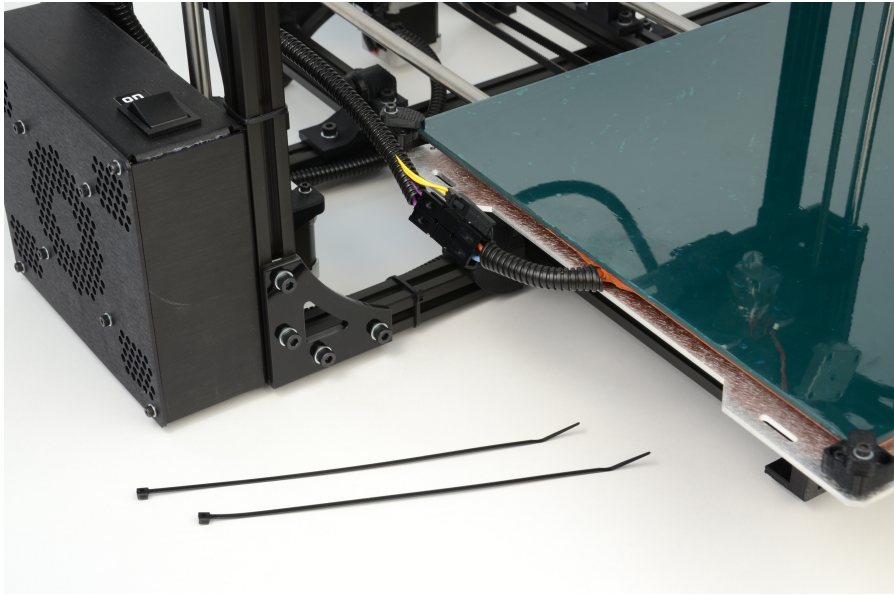
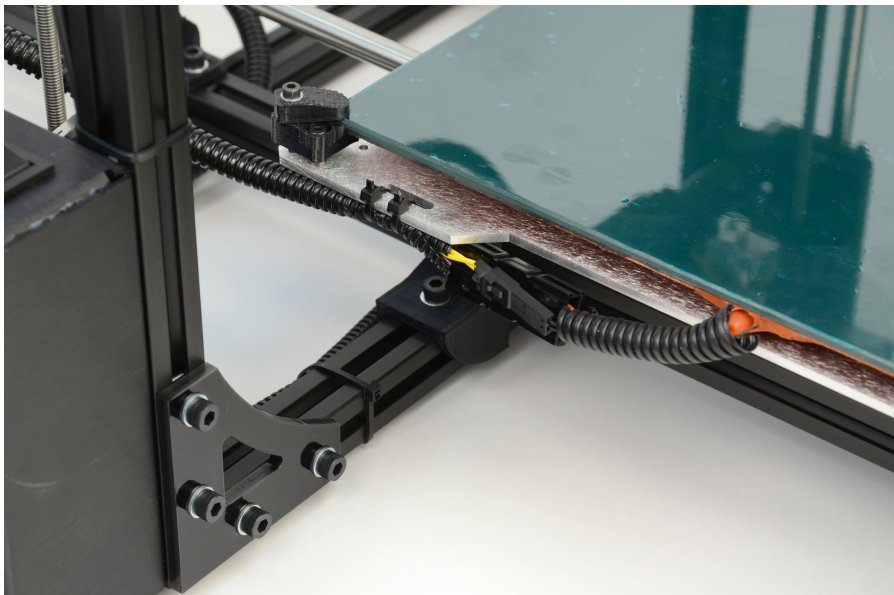

Figure 1.9: Locate the two zip ties found in the bag with the manual
Figure 1.10: Tightly wrap the zip ties around the bed wires and through the strain relief slot
7. Locate the other two small black zip ties that are included in the documents bag (Fig. 1.9, page 23). Wrap the two zip ties through the slot, located on the left rear of the aluminum bed plate, and around the print bed wires (Fig. 1.10, page 23). Tighten the zip ties snug so the wire cannot move freely. Cut off the excess end of the zip ties with the needle nose pliers included in the tool bag.